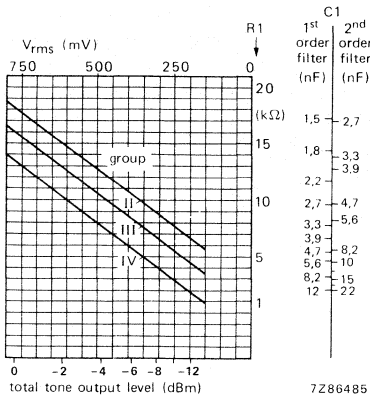

Fig. 7 Level adjustment (see Figs 3 and 4).
| R1 | metal film resistor | MR16 | 1% | see Fig. 7 |
see Fig. 7 |
The level of the higher-frequency tone however is always $2 \pm 0,7$ dB above that of the lower-frequency tone. The total production of the circuits is therefore divided into groups. The group to which any of the integrated circuits belongs is identified by dots on the body of the circuit, the number of dots corresponding with the group number. The combined tone output level is shown as a function of resistor value with group number as a parameter in Fig. 7. After the resistor value has been selected to obtain the required tone output level, the value of the filter capacitor connected to the same pin must be determined. For passive first-order filters (Fig. 4) the time-constant (RC) must be 26 μs. For active second-order filters it must be 46 μs. These values accommodate the different attenuation levels for the various tone frequencies due to the 0,3 dB hump at the breakpoint of the filters.